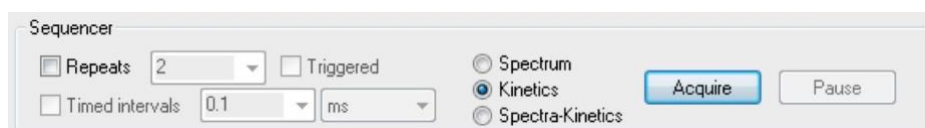

Figure 10. the Sequencer panel
- The **Sequencer panel** (Figure 10) allows you to specify the type of measurement you will make and to control the starting, stopping, pausing, and resuming of data acquisitions.